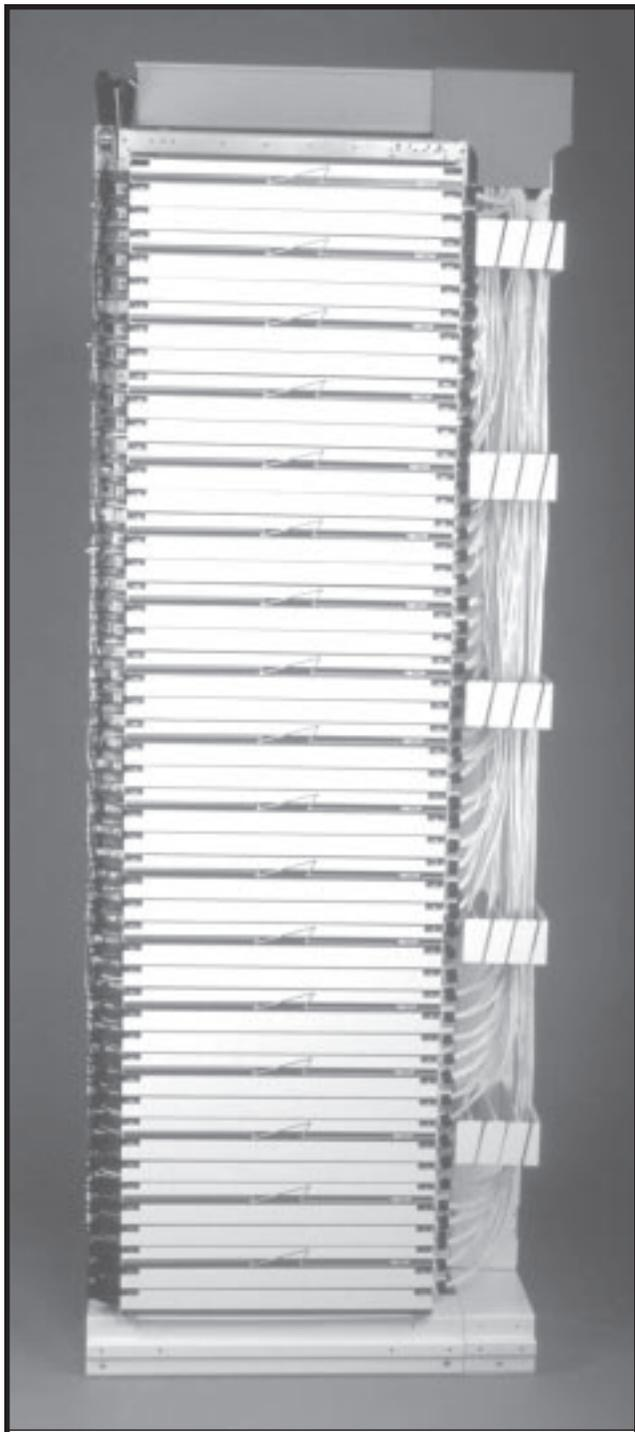

Figure 1
1.1 This document describes the installation of the High Density Frame (HDF) manufactured by Corning Cable Systems (Figure 1).